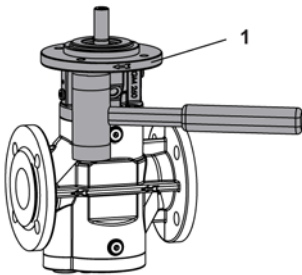

Fig. 18
1. Unscrew the socket screws at the flange cover 1 and loosen the flange cover using light "rebound" blows, see Fig. 18.